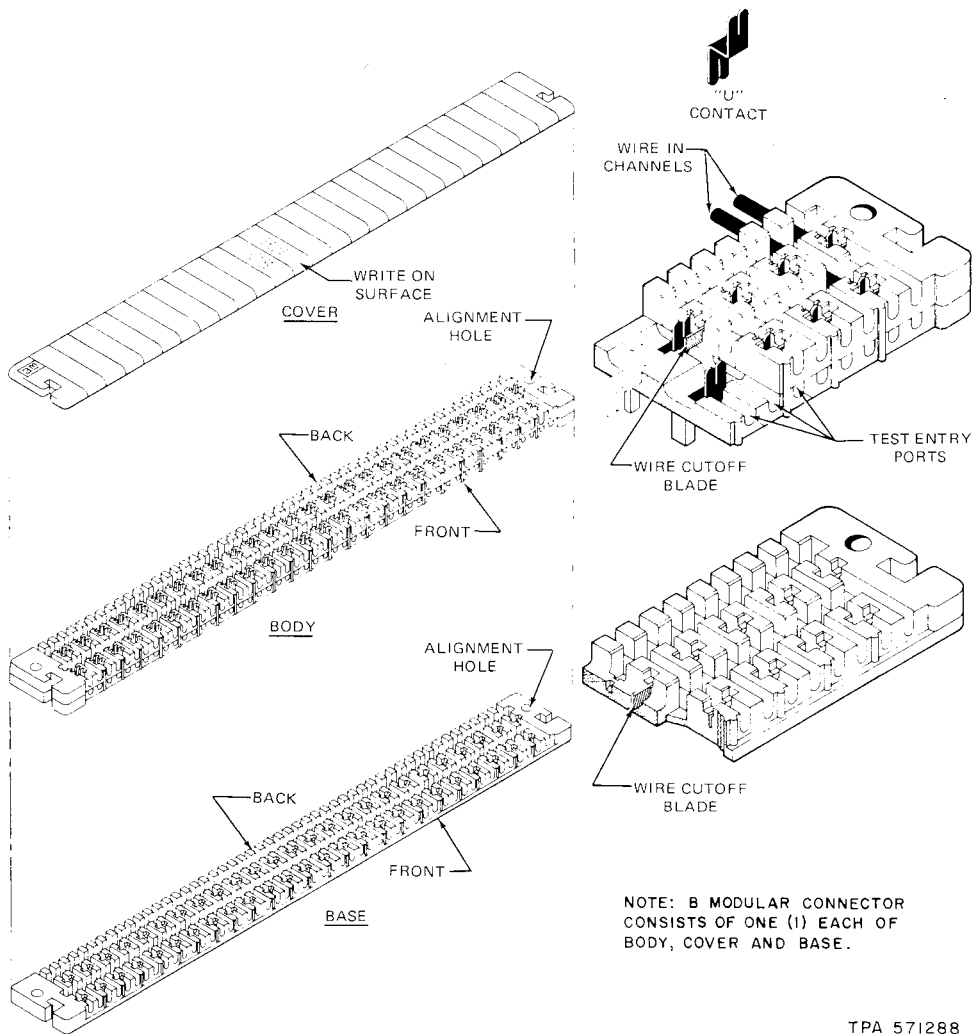

Fig. 4—B Modular Connector Components
**3.04** The B Modular Connector (Fig. 4) consists of three separate components, as follows: